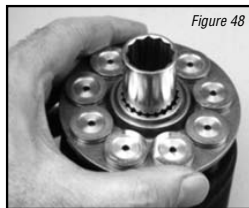

Figure 48
**20** Use a small socket or similar tool to help retain the pivot in the centered position. Lubricate and install the spider and piston assemblies onto the pivot and pistons into the piston block assembly (see Figure 48).